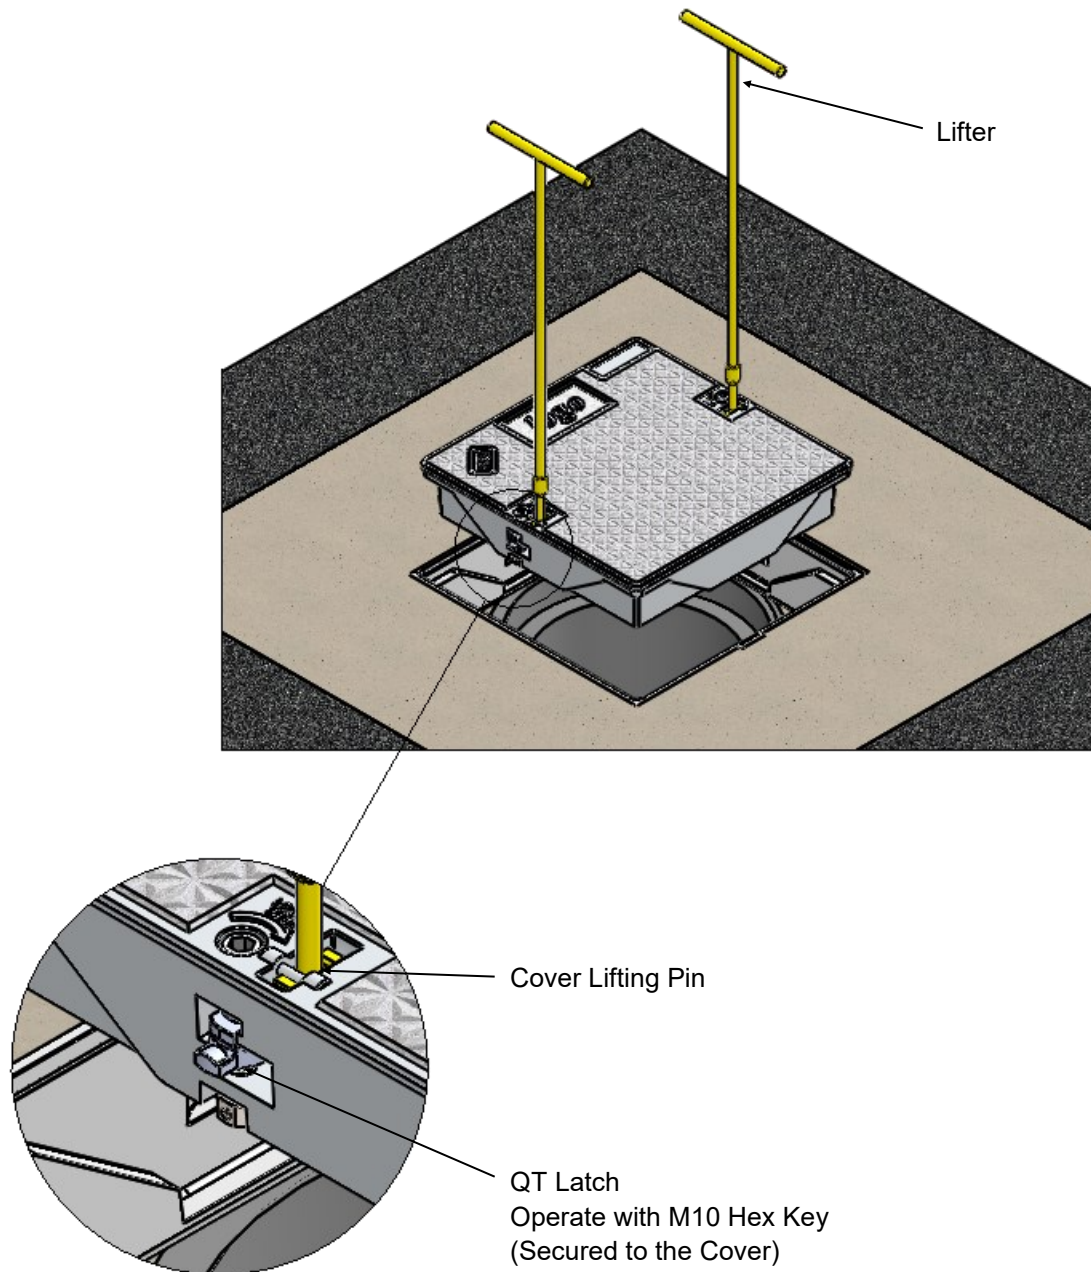

Fig 2
5. Secure the cover to the frame by rotating the 2- **QT latch** bolts clockwise until tight to 70 Nm of torque. Note that these are not removable bolts. *Ref Fig 2*